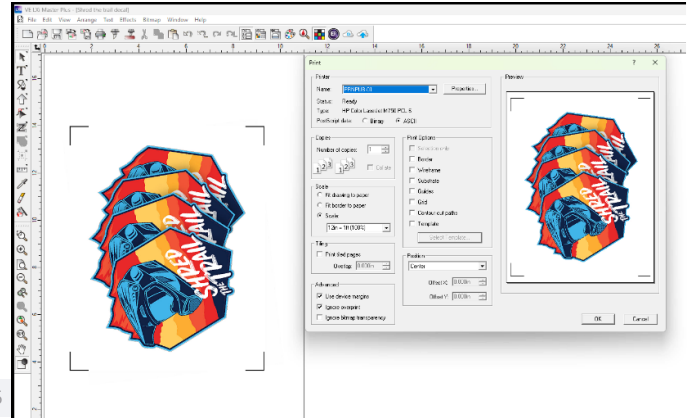

Fig. 3.2.5
- Load the printout into the Muse Servo using the same orientation as on the screen in LXI. In the example being used, FIG. 3.2.5 shows a Landscape orientation and the printout should also appear the same. This is then how the printout would also be loaded. Note that if the material is not backed (e.g. paper or cardstock), the Muse Servo's cutting mat should be used as the carrier.